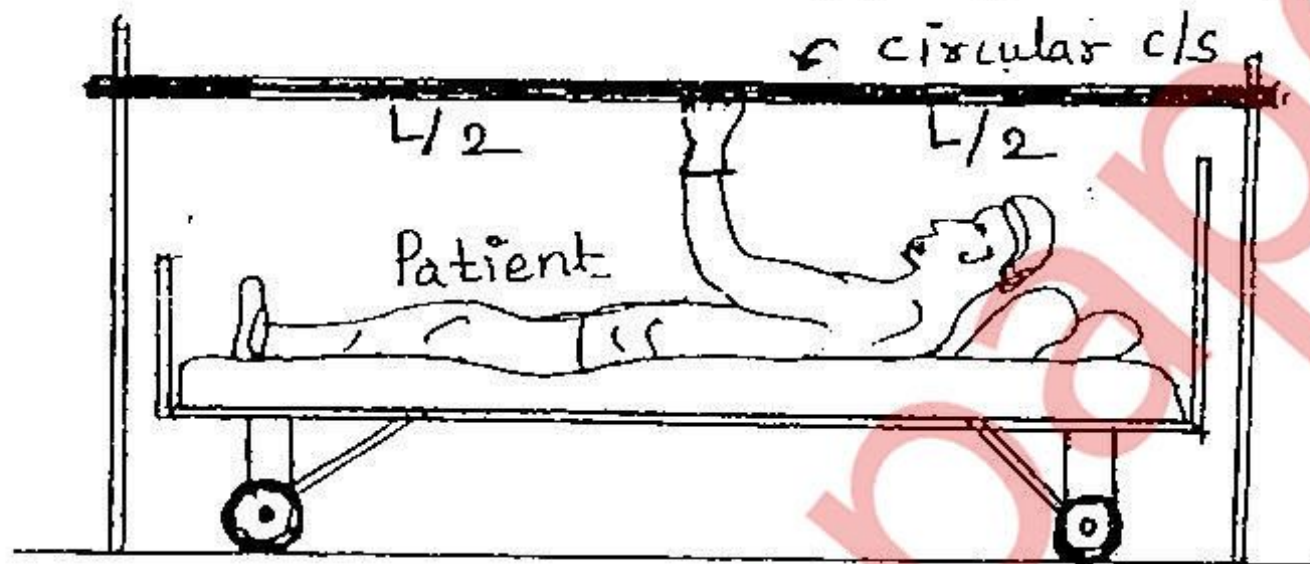

FIG. 8
b) A so-called "trapeze bar" in a hospital room provides a means for patients to exercise while in bed (fig. 8). The bar is 2.1 m. long & has a solid circular C/S. The design load is 1.2 kN applied at the mid-point of the bar & the allowable bending stress is 200 MPa. Determine the diameter of the bar to be provided. (Assume that the ends of the bar are simply supported & that the weight of the bar is negligible).